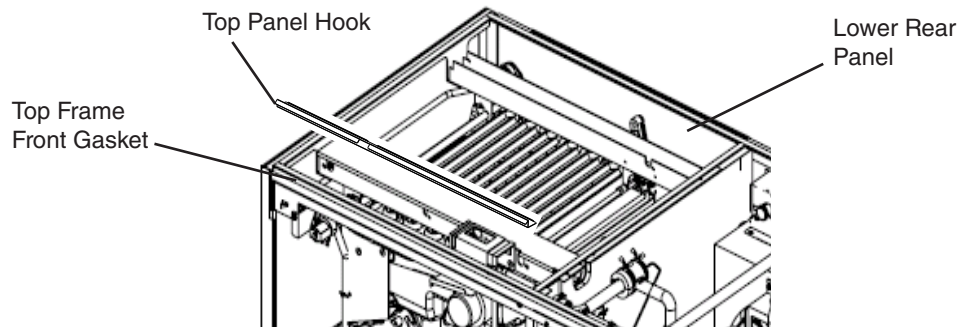

Fig. 1
- 4) Remove the top, left, and right panels. See "II.C. How to Remove Panels" in the instruction manual. Also remove the lower rear panel. See Fig. 1.
- 5) Remove the top frame front gasket from the lower icemaker. See Fig. 1. Next, place the top panel hook provided in this kit, on top of the frame, then place the gasket provided in this kit, on top of the top panel hook.